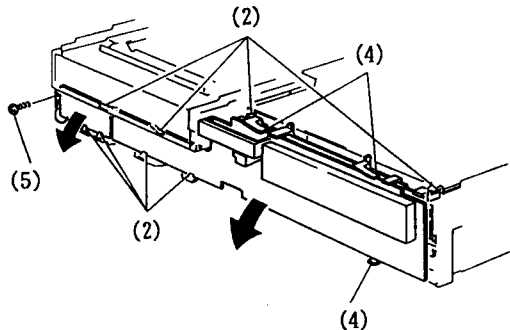

Fig. 4-1 Timer/Operation Switch, Front Switch Circuit Boards
1. Timer/Operation Switch, Front Switch Circuit Boards (Fig. 4-1)